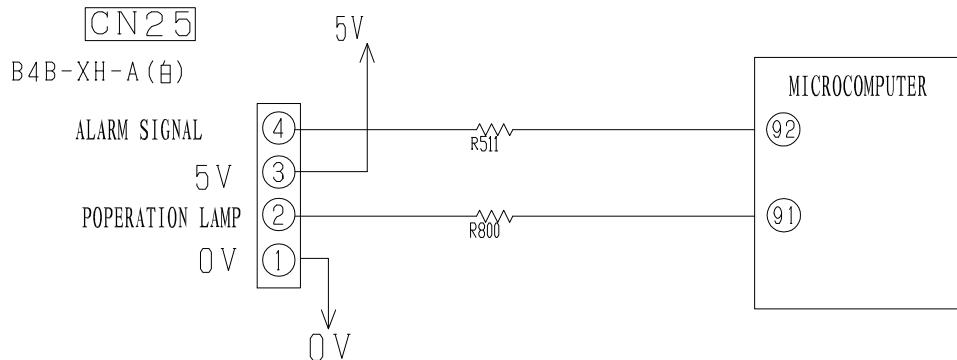

Fig.14-1
Fig.14-1 is the control circuit of run status and signal output in main PWB. The pin② of CN25 is used to show run status and the pin④ of CN25 is used to warn people when failure occurrence. If customer want to use this function, need to use the adapter(sold separately) to achieve it. the adapter is optional and the detail circuit refer to following circuit.